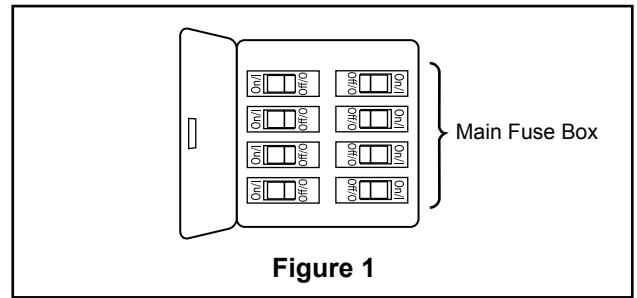

Figure 1
1. Disassemble switch cover/light kit assembly from switch housing removing four screws. Retain these screws for Step 4. (Figure 1)
1. Restore electrical power to the outlet box by turning the electricity on at the main fuse box. (Figure 1)